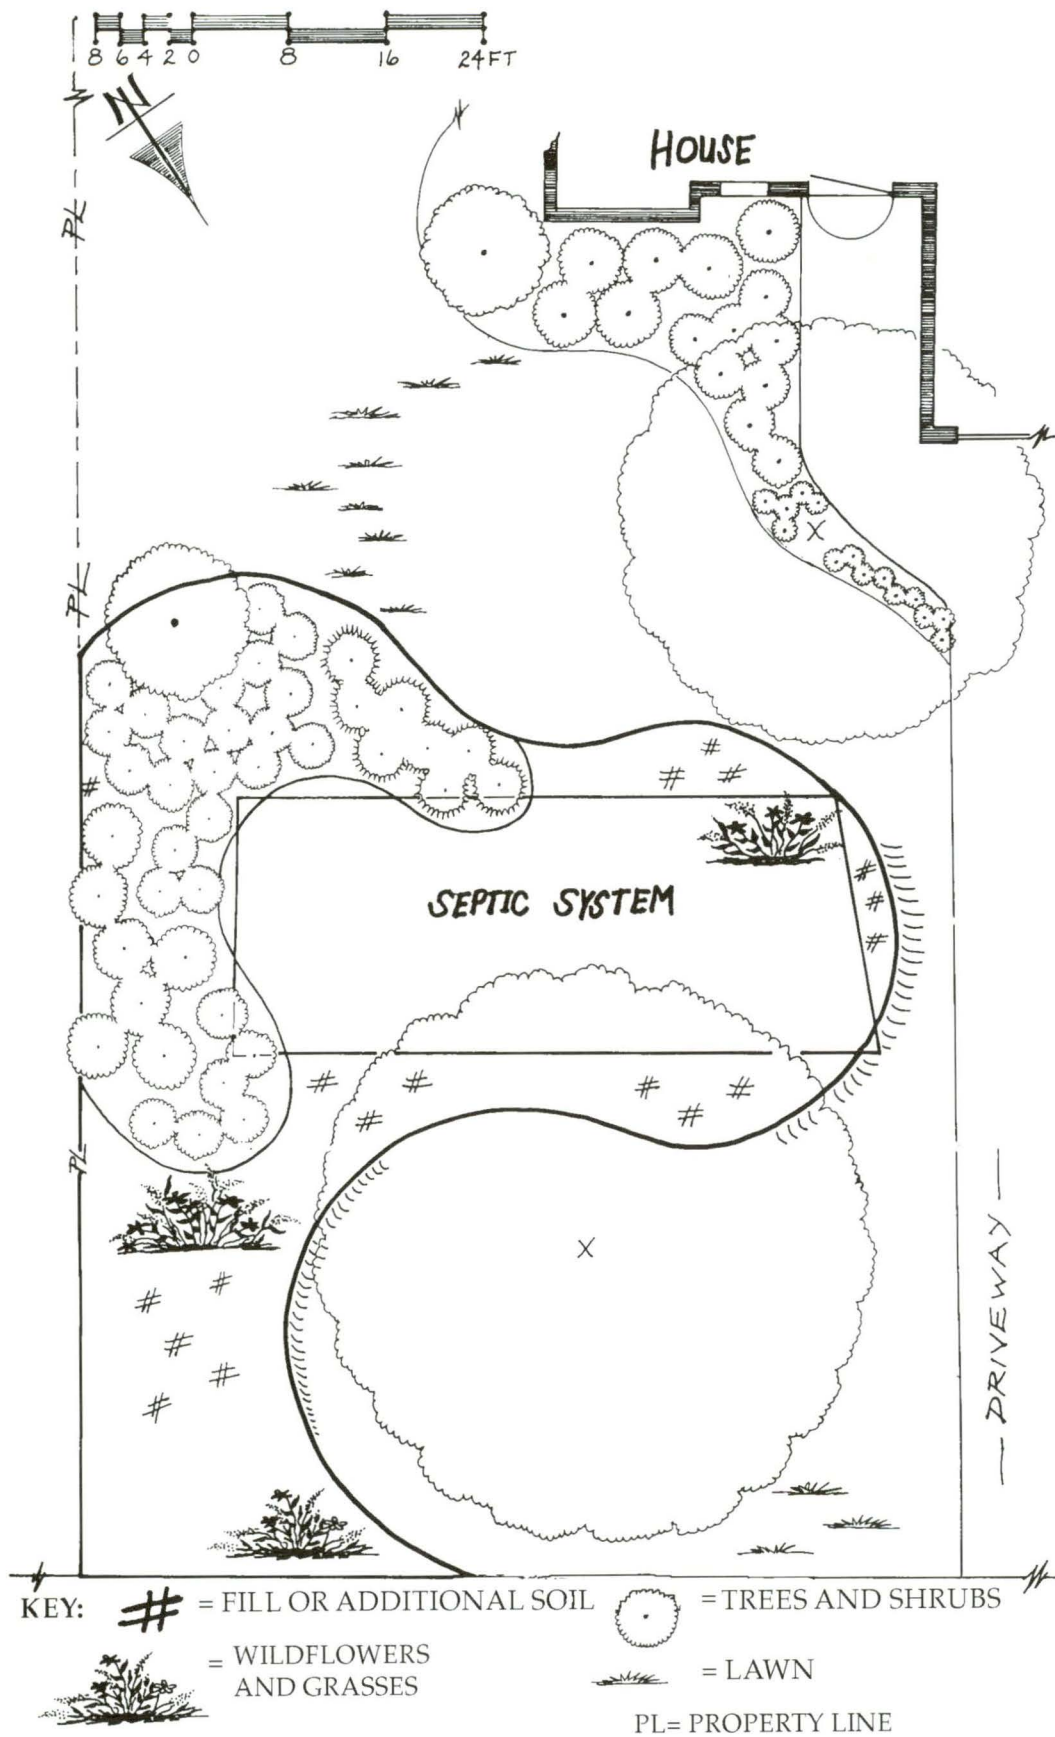

Figure 4. Model landscape plan for mound septic system.
state standards and rules (typically 100 feet) or 10 feet from property lines (PL) or rights-of-way (see Figure 4). Additionally, on even a slight slope, it is paramount that the mound rockbed be on the contour for proper operation of the system. Soil must not be moved to create a different slope, as this reduces the ability of the soil to accept the effluent. Once the drainfield or mound is determined, protect it from compaction and disturbance to ensure proper sewage treatment.
an **unbroken turf area** as the **first priority**, then place the septic system beyond the bedline disguising it as part of a shrub or perennial area or screening it with trees or large shrubs. If your property is smaller, blending the mound into the overall landscape is still the key. Try moving the focal point from the mound to other plants or features. **Extending the actual berm** with additional topsoil at the same height and curving the perimeter, then sloping down and away can conceal the existence of the system (see Figure 4). If the drainfield must be located near a drive, patio, or walkway, retaining walls may be used to save space, but only on the uphill side of the berm. Connect the extended berm to another large feature in the yard, such as a pool enclosure or other fenced area, using retaining walls for transition. **ALWAYS** design with the entire yard or viewing area in mind—connect it to the whole picture.